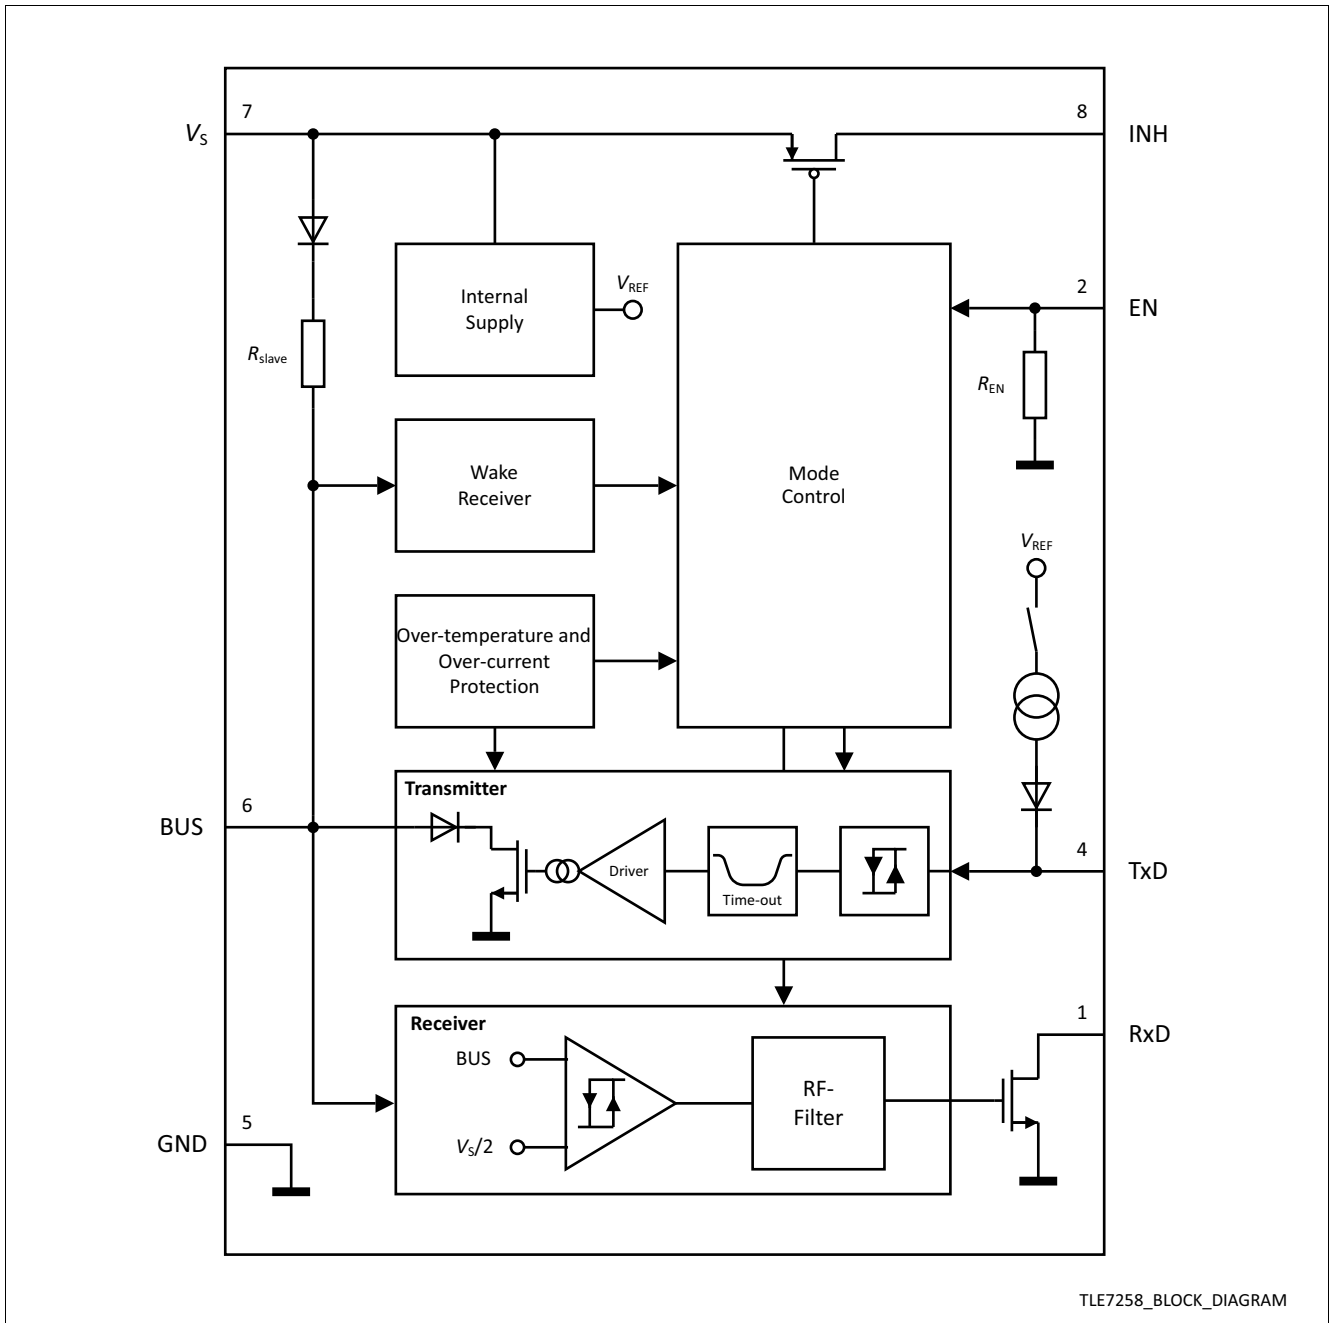

Figure 1 Block diagram
- 1) The TxD input is disabled in Sleep mode and the internal pull-up current source is switched off (see Figure 1).
- The BUS pin is terminated to  $V_S$  via the internal termination resistor  $R_{BUS}$  (see Figure 1).
- The BUS output is terminated to  $V_S$  via the internal termination resistor  $R_{BUS}$  (see Figure 1).